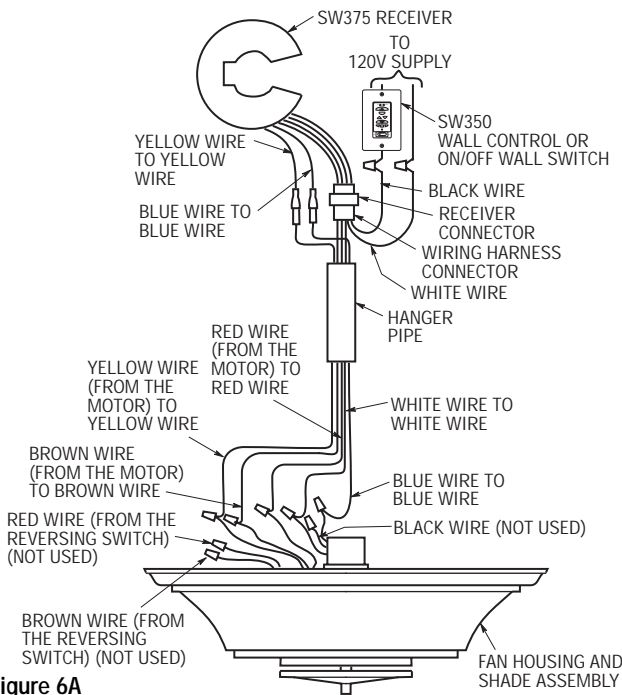

Figure 6A
- 22. Connect the black wire from the wiring harness to the black (hot) supply wire (Figure 6A). Connect the white wire from the wiring harness to the white (neutral) supply wire. Connect the green ground wires from the hanger bracket and the hanger ball to the supply ground wire. Use wire connectors (supplied).
- 23. Securely connect the wiring harness connector to the receiver connector, and connect the blue and yellow wires from the downrod to the blue and yellow wires from the receiver (Figure 6A).